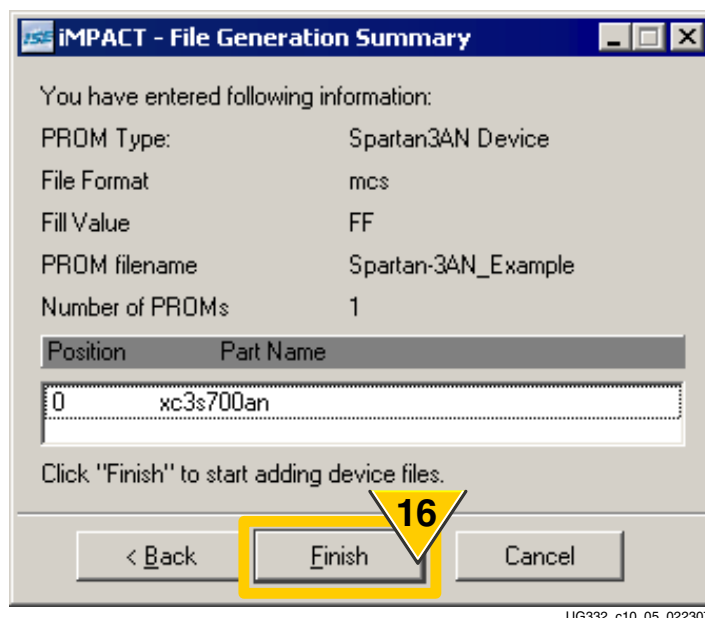

Figure 10-8: Review Spartan-3AN In-System Memory Formatting Settings
16. As shown in Figure 10-8, review that the settings are correct to format the Spartan-3AN In-System Flash. Click **Finish** to confirm the settings or **Back** to change the settings.